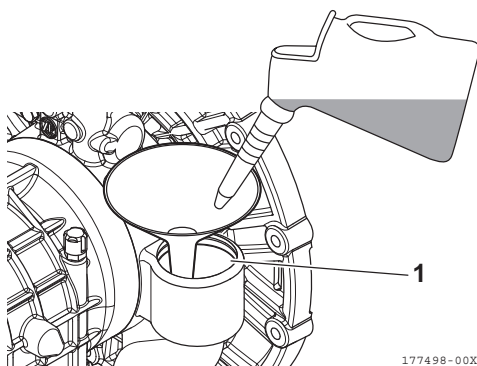

Figure 18
9. Fill lubricating oil through the oil filter cartridge seat (1, **Figure 18**) as specified in the *Lubricating Oil Chart* on page 20.